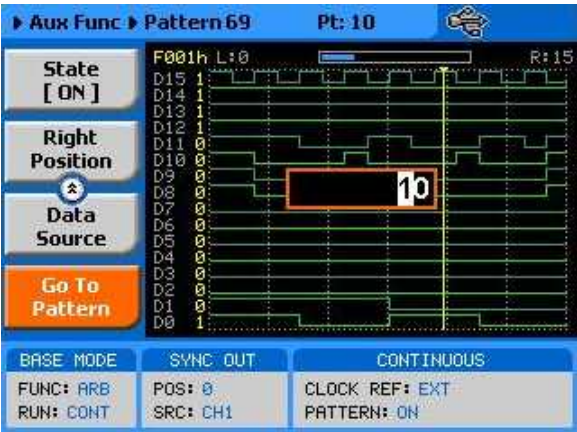

Figure 3-89, Go to Pattern Display
- 2) Arbitrary Memory provides access to the entire arbitrary memory however, the data cannot be displayed on the front panel. If you select the arbitrary memory option, any waveform that is downloaded to the arbitrary memory can be generated simultaneously, from the front panel as an arbitrary memory and from the rear panel as digital pattern. When you select the arbitrary memory option, the message as shown in figure 3-89 will display.
Go to Pattern – provides access to a specific line in the pattern sequence. Notice that pattern sequences cannot be added from the front panel because patterns can only be downloaded from a remote controller. Figure 3-89 shows the Go to Pattern display.